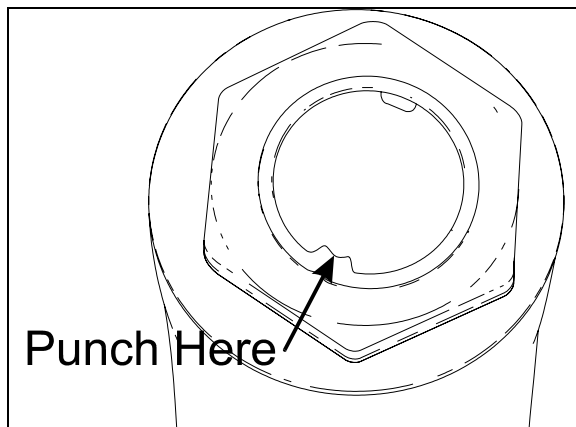

FIGURE 15: FIXING NUT PUNCH MARK
- Lock nut with sector shaft using a punch mark into the groove (Refer to figure 15).